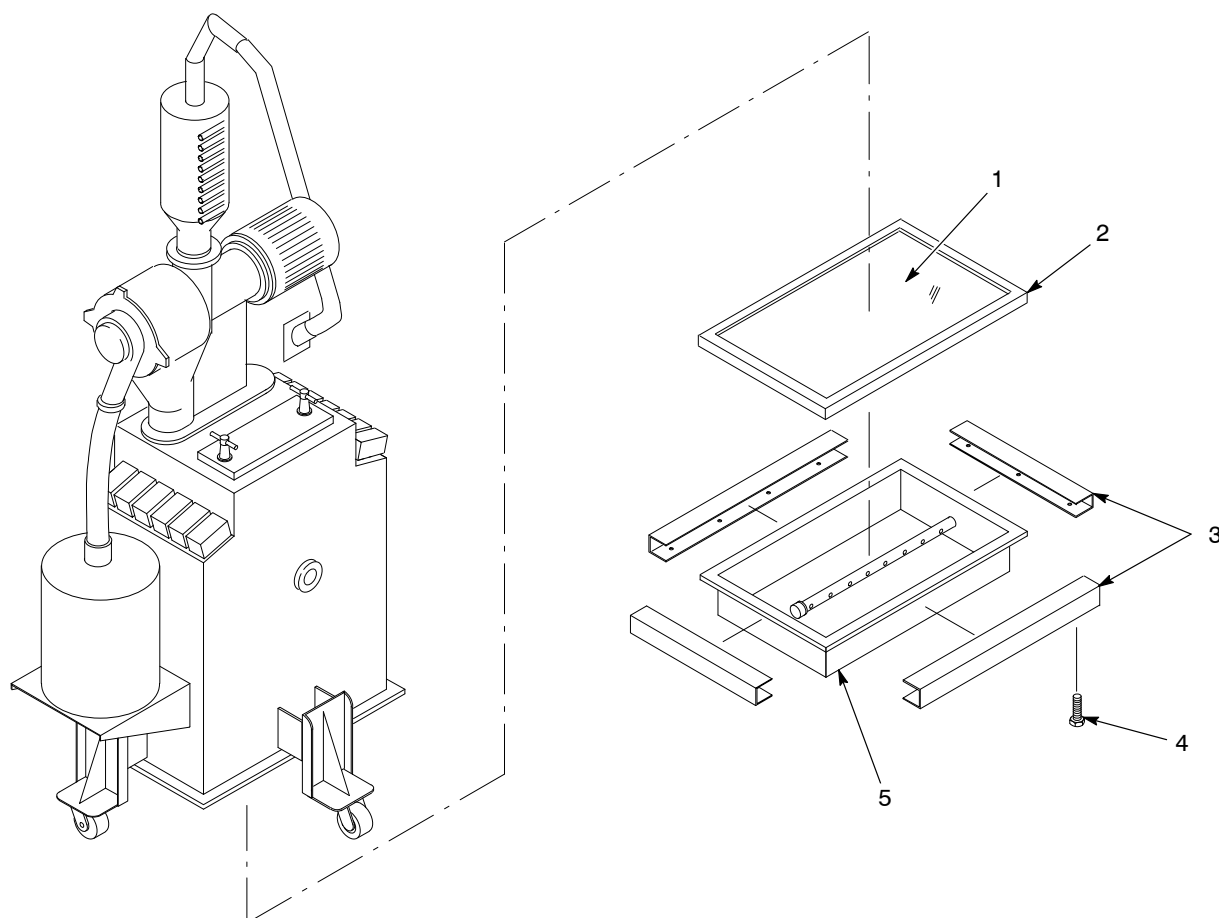

Figure 7-4 HTM Feed Hopper Fluidizing Plate Replacement
1. See Figure 7-4. Block up the fluidizing pan (5) so the pan and hopper flanges will not bend when you start removing the clamping channels (3).
2. Loosen the screws (4) about 6–10 mm (0.25–0.375 in.) to clear the gasket (2). Remove the clamping channels.
3. Remove the pan and the fluidizing plate (1) from under the feed hopper.